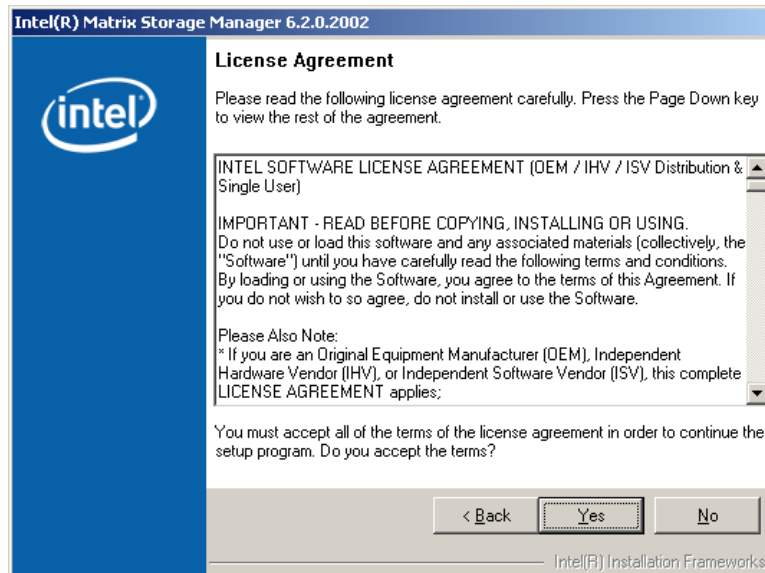

Figure 7-30: Matrix Storage Manager License Agreement
Step 9: Click **NEXT** and a license agreement appears (**Figure 7-30**).